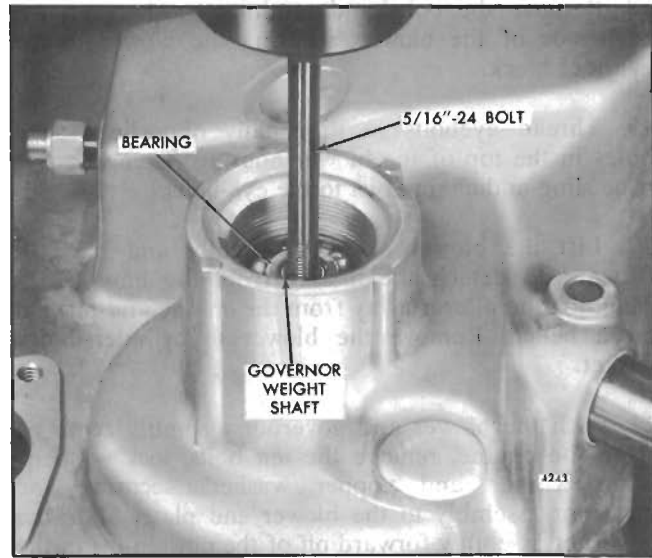

Fig. 7 - Removing Governor Weight Shaft Assembly from Governor Housing
- d. Thread a 5/16"-24 x 3" bolt into the bearing retaining bolt hole. Support the governor housing on the bed of an arbor press and press the governor weight shaft from the bearing as shown in Fig. 7.